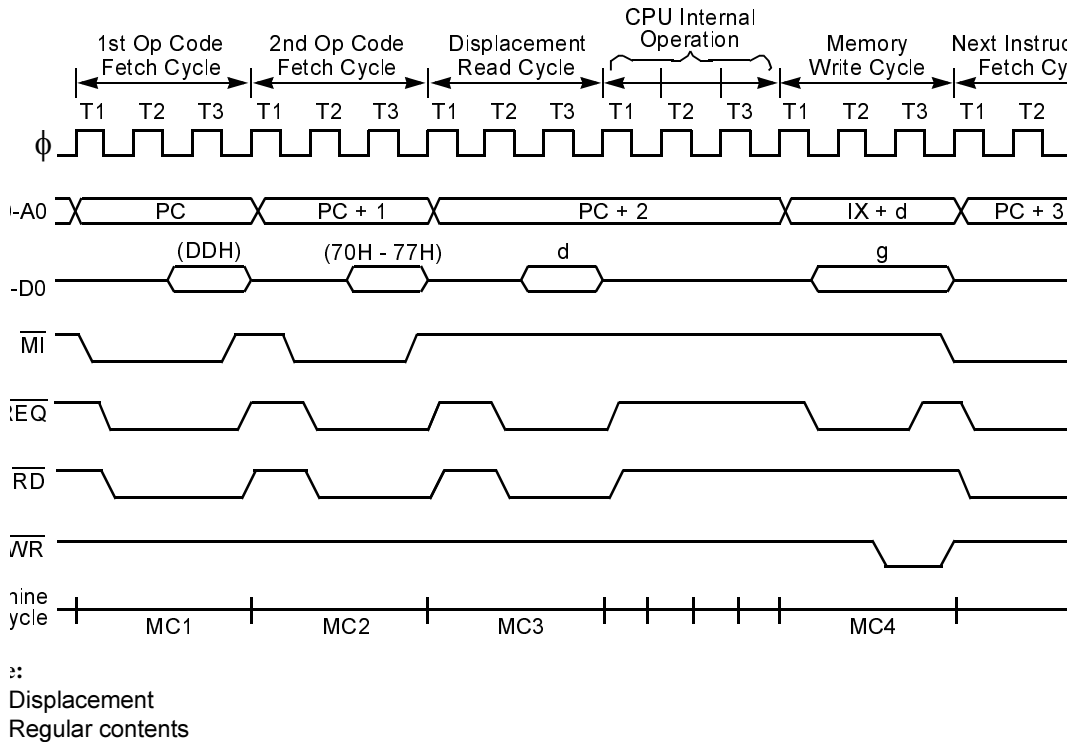

Figure 7. Instruction Timing
Figure 7 illustrates the bus timing for the data-transfer instruction ($\text{LD}(\text{IX}+\text{d}),\text{g}$). This instruction moves the contents of a CPU register (g) to the memory location with address computed by adding a signed 8-bit displacement (d) to the contents of an index register (IX).